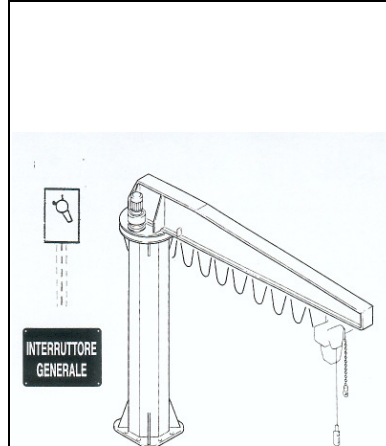

fig.46
- **Install, in the immediate vicinity of the crane, a line switch, protected against short circuits, showing its function with the appropriate label (fig.46).**